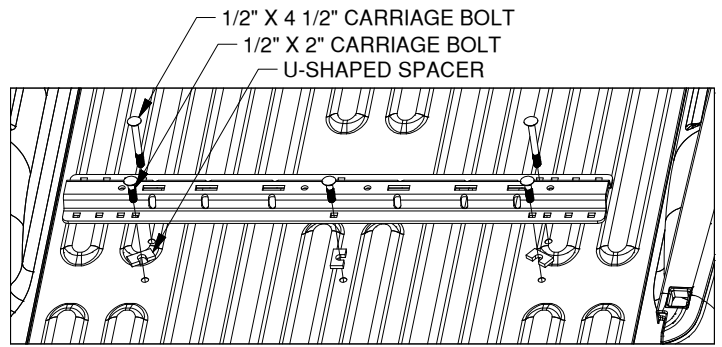

Figure B1: View looking into truck bed from rear of truck.
**1. The rear mounting rail.** Re-position the rear mounting rail over the drilled 9/16" holes in the bed. Install two 1/2" X 4 1/2" carriage bolts into the two forward drilled positions (holes over the crossmember) and Install three 1/2" X 2" Carriage bolts through the three rear drilled positions, as shown in figure B1. Place a U-shaped washer between the bed and the mounting rail at the three rear drilled positions.